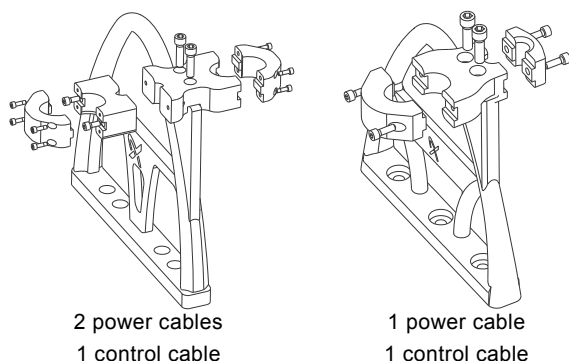

Fig. 37 Cable clamps.
1. Loosen and remove the screws (pos. 180a). See section 22. Exploded views.
2. Remove the cable clamps. See fig. 37.